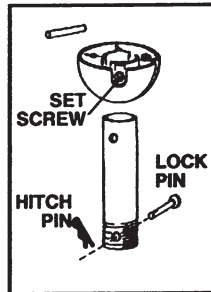

FIG. 7
**Step 3.** Remove downrod hanger ball by loosening set screw, removing the cross pin, and sliding ball off rod. Remove the hitch pin and lock pin. (Fig. 7)